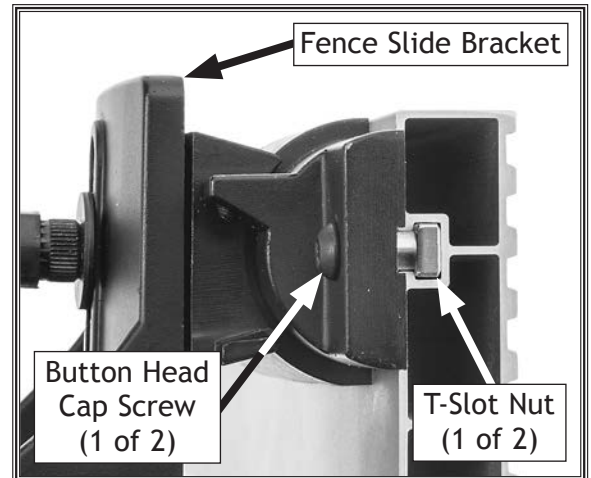

Figure 10. Button head cap screws and T-slot nuts installation.
2. Install (2) M6-1 X 16 button head cap screws and (2) 7mm T-slot nuts on fence slide bracket (see **Figure 10**). **DO NOT** tighten at this time.